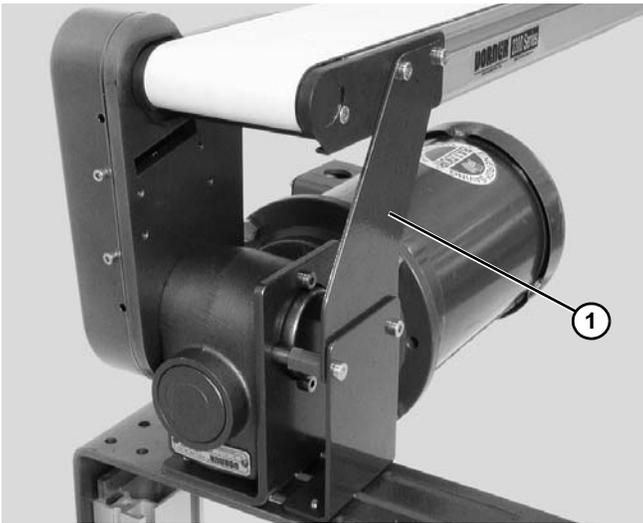

Figure 71
- If equipped with a heavy load drive package, install drive support bracket (**Figure 71, item 1**).